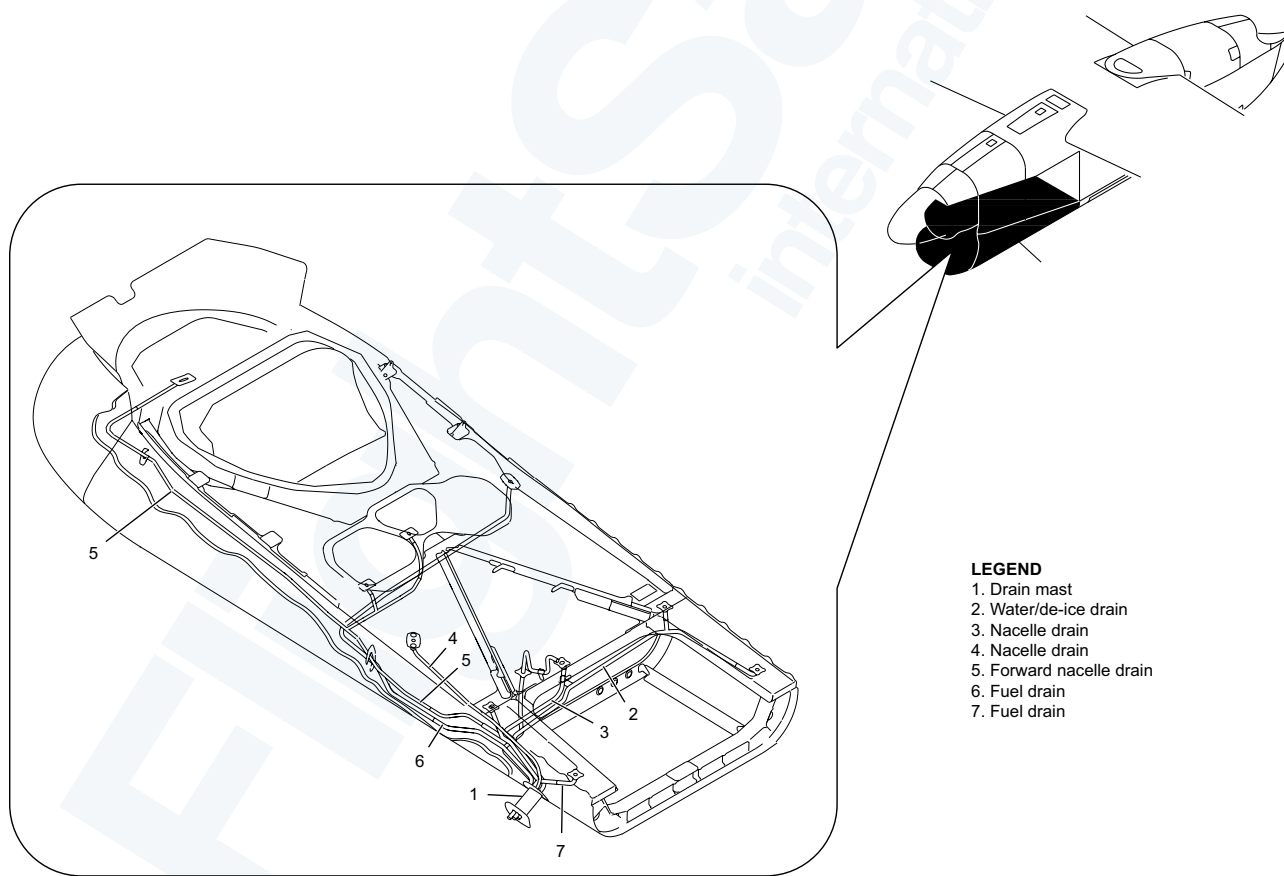

Figure 71-36. Forward Nacelle Air Intake Detail
- Figure 71-36. Forward Nacelle Air Intake Detail.